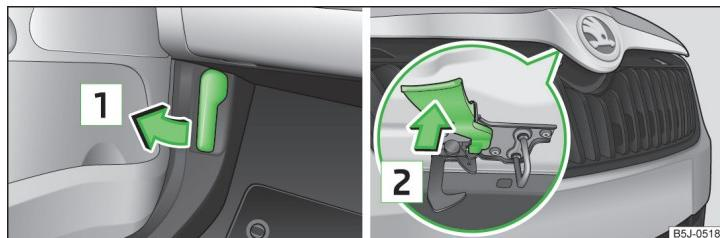

Fig. 124 Bonnet release lever/release lever
- Pull the release lever under the dash panel in the direction of the arrow 1 » Fig. 124.
Never open the bonnet by the locking lever » Fig. 124.